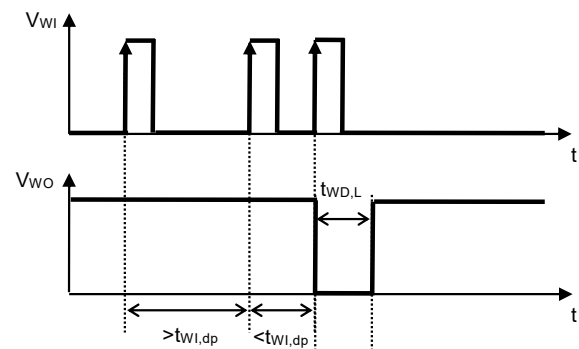

Figure 11 Watchdog Double-pulse Detection Time
- \*3. The time from when the watchdog timer initiates the detection of a trigger signal to when a trigger is detected again before  $t_{WI,dp}$  elapses and the WO pin output changes to "L" (Refer to **Figure 11**). This value changes according to  $C_{DLY}$ .